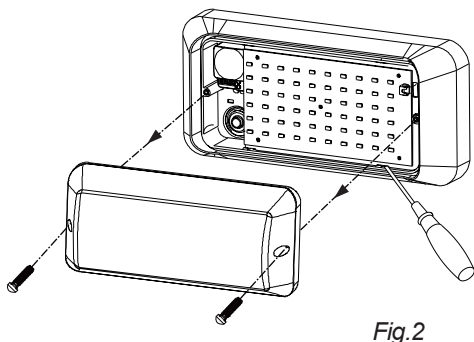

Fig.2
- Step1 Remove the lampshade and the LED board before you install the lamp.(as Fig.2)